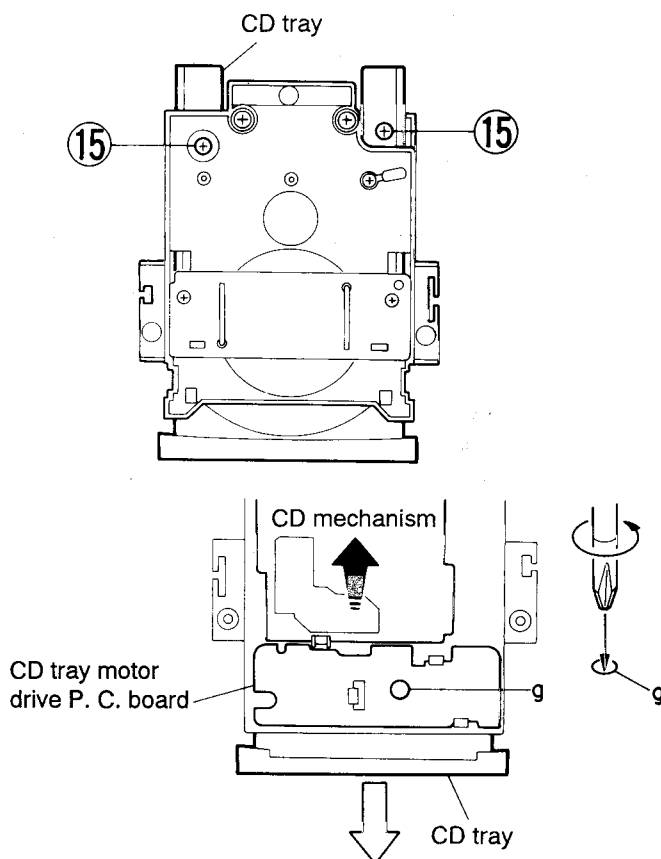

Fig. 5-13
■ How to Remove the CD Tray (Refer to Fig. 5-13)
5. Remove the two screws (15) playing a role of CD tray stopper.